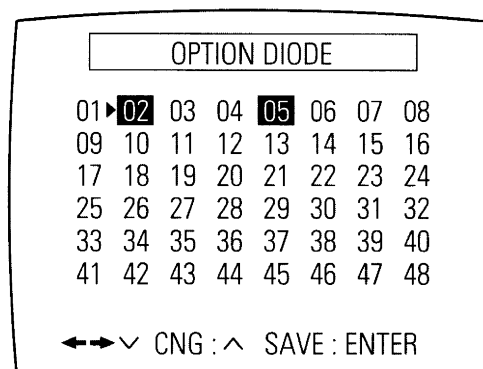

Fig. 5-17
- 2) Press the "MENU (OSP)" button on the remote control about 5 seconds then option setting display is appeared. (See Fig. 5-17)
- 4) If selecting the option number is completed, press the "CH/TRK (PROG.TV)  $\wedge$ " button of remote control. (If "CH/TRK (PROG.TV)  $\wedge$ " button is pressed, the selected number is changes reversed color. ; See Fig. 5-17)